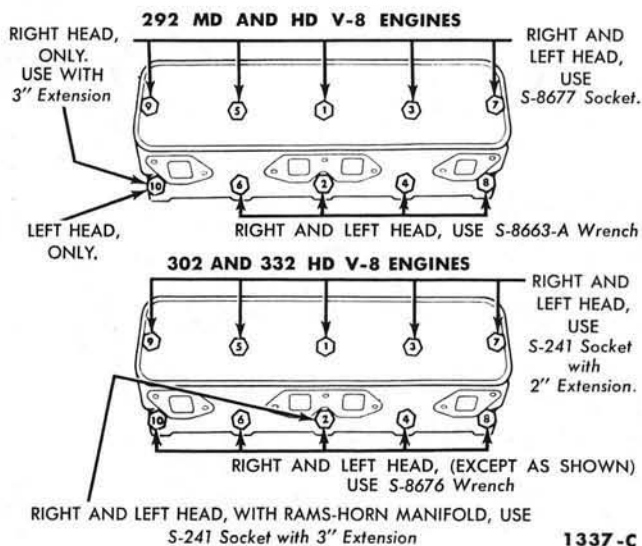

FIG. 27—Cylinder Head Bolt Tightening Sequence
2. Place the cylinder head on the engine, then remove the holding fixtures. Coat the cylinder head bolt threads with water resistant sealer and install the bolts. The cylinder head bolt tightening procedure is performed in three progressive steps. Tighten the bolts to the specifications listed in Table 2 following the sequence shown in Fig. 27. Each step in the tightening procedure is performed with the engine cold. After the cylinder head bolts have been tightened to specifications, the bolts should not be disturbed.